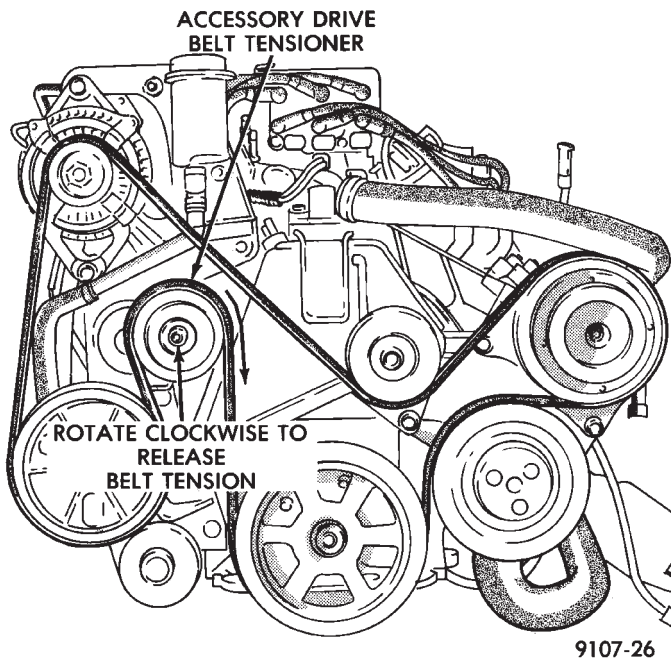
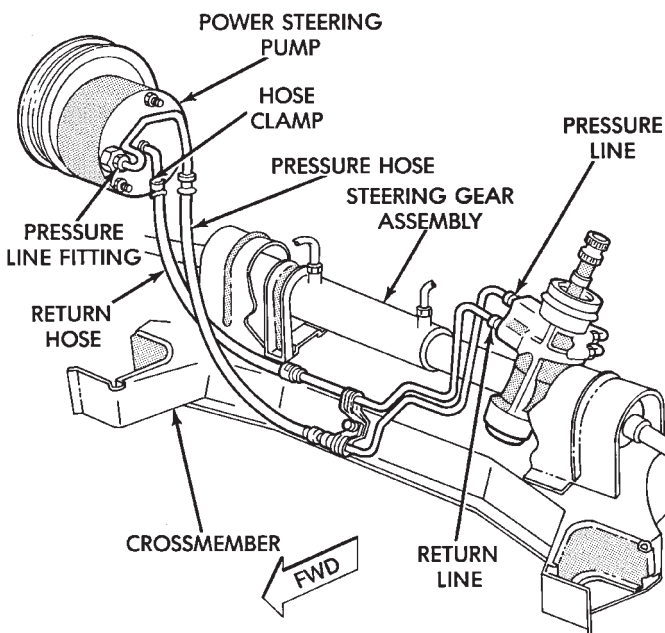
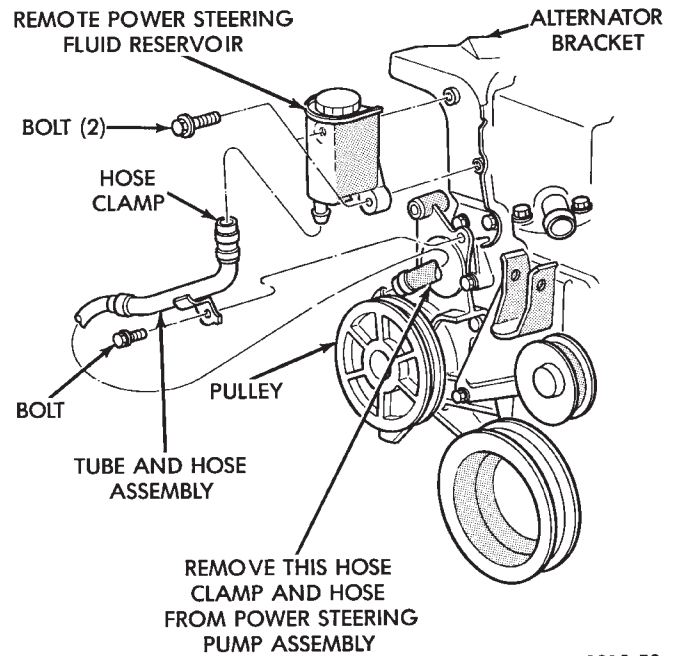
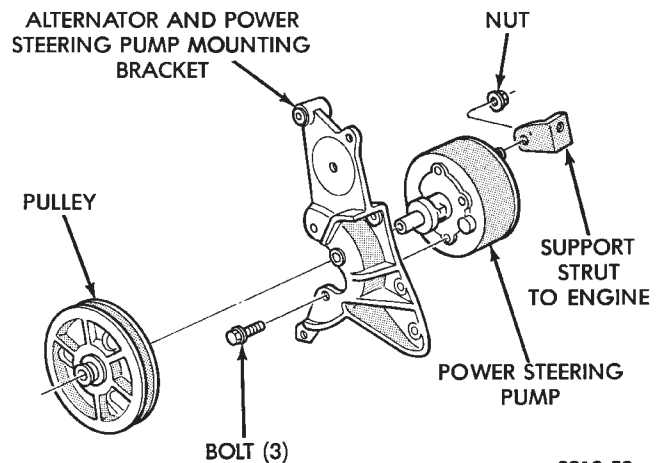

Fig. 9 Serpentine Drive Belt Routing
Fig. 10 Power Steering Hose Routing 3.3 & 3.8L
Fig. 11 Power Steering Remote Fluid Reservoir And Tube
Fig. 12 Power Steering Pump Mounting 3.3L
(1) Remove the (-) negative battery cable from the battery and isolate cable.
(2) Remove the serpentine accessory drive belt from engine (Fig. 9). See Cooling, Group 7 for detailed removal procedure.
(3) Raise vehicle See Hoisting, Group 0. Put oil drain pan under vehicle to catch power steering fluid. Remove hose clamp and low pressure fluid hose from power steering pump (Fig. 10).
(4) Remove hose clamp and hose to the power steering pump, from the remote fluid reservoir (Fig. 11). Drain off excess power steering fluid from hoses.
(5) Remove the power steering, fluid pressure line (Fig. 10) from the power steering pump. Drain excess power steering fluid from tube.
(6) Remove right front wheel and tire from vehicle. This will aid in access to the power steering pump mounting bolts.
(7) Remove the 3 bolts holding the power steering pump to the alternator, power steering and belt tensioner mounting bracket (Fig. 12).
(8) Remove nut and bolt holding the engine block, to power steering pump support strut. Remove strut from engine and power steering pump (Fig. 12). **Lay the power steering pump assembly down on top of the steering gear. It will be removed later from the top.**
(12) Install the power steering pump on bracket, by aligning the 3 mounting holes in pump with mounting holes in bracket (Fig. 12). Install the 3 power steering pump to bracket mounting bolts. Torque power steering pump mounting bolts to 54 N•m (40 ft. lbs.).
(13) Install the support strut, engine block to power steering pump on pump stud (Fig. 12). Install the nut and bolt holding the strut to the power steering pump and engine block and torque to 54 N•m (40 ft. lbs.).
(14) Install the power steering fluid pressure line onto the output fitting of the power steering pump (Fig. 10). Torque the pressure line pump fitting nut to 31 N•m (275 in. lbs.). **Before connecting the pressure line to power steering pump inspect the O-ring on the pressure line for damage.**
(15) Install the power steering fluid, low pressure return hose on the power steering pump low pressure fitting (Fig. 10). Then install the hose from the remote reservoir onto the power steering pump (Fig. 11). Be sure all hose clamps are properly reinstalled.
(16) Install right front tire and wheel on vehicle. Install the wheel stud nuts and torque to 129 N•m (95 ft. lbs.).
(17) Lower vehicle.
(18) Install the serpentine drive belt. Refer to (Fig. 9) for correct serpentine belt routing. See Cooling, Group 7 for detailed installation procedure.